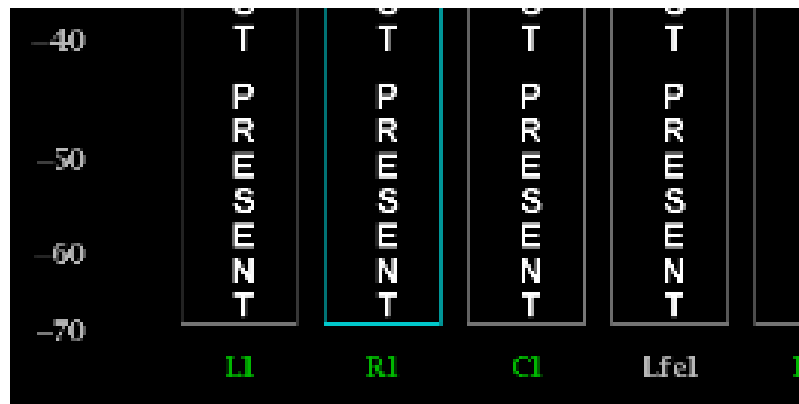

Figure 122: Downmixed 5.1 stream with a solo channel marked (in blue)
4. Select the Audio application (see Figure 122):